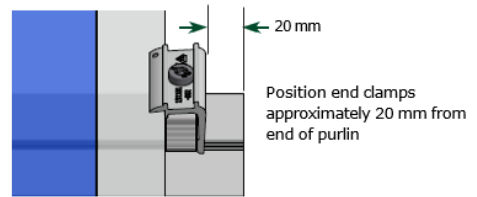

Fig 4.3.1A: Positioning end clamp
I. Position end clamps on rail approximately 20mm from end of rail, do not tighten [Fig 4.3.1A].